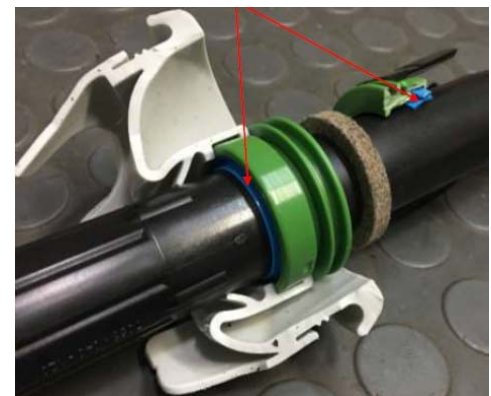

Figure 2
- The two rings are visible in the assembly overview shown in Figure 2.
- Both rings are identical. The ring on the passenger compartment side is cut away for clarity. Note the felt insulator in between ⇒ *Figure 2.*